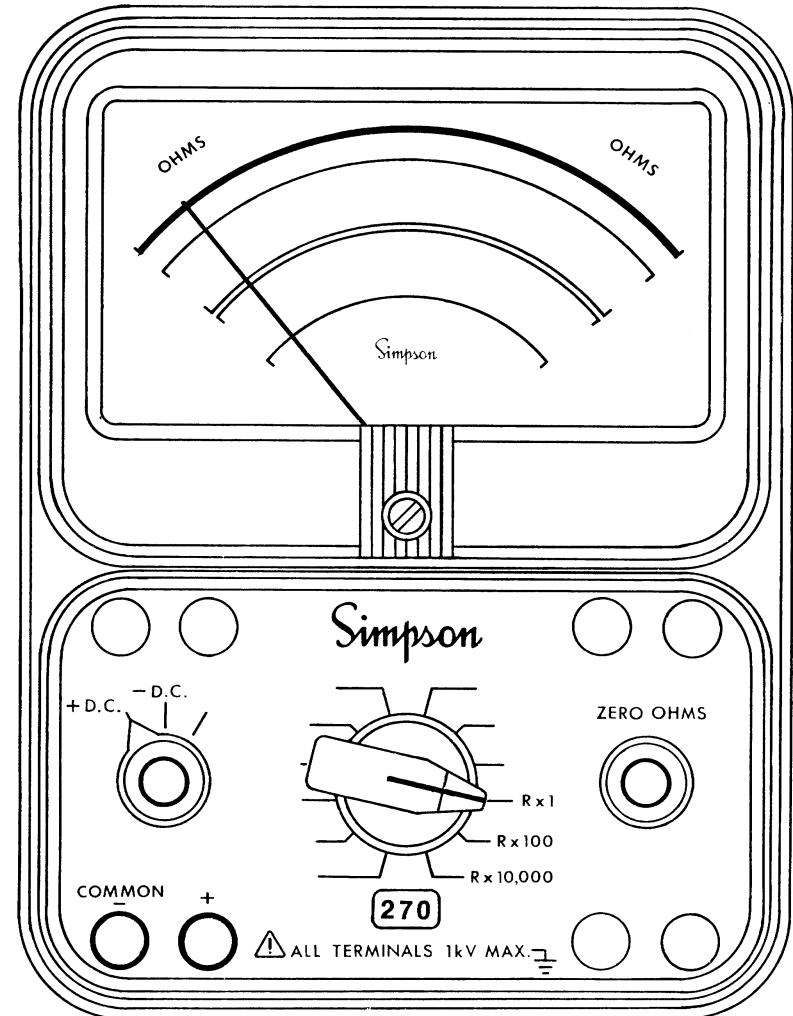

FIGURE 4-8. JACKS AND SWITCH POSITIONS FOR MEASURING RESISTANCE
- b. Disconnect the shunted component from the circuit before measuring its resistance. Then set the range switch to one of the resistance range positions as follows (Figure 4-8):